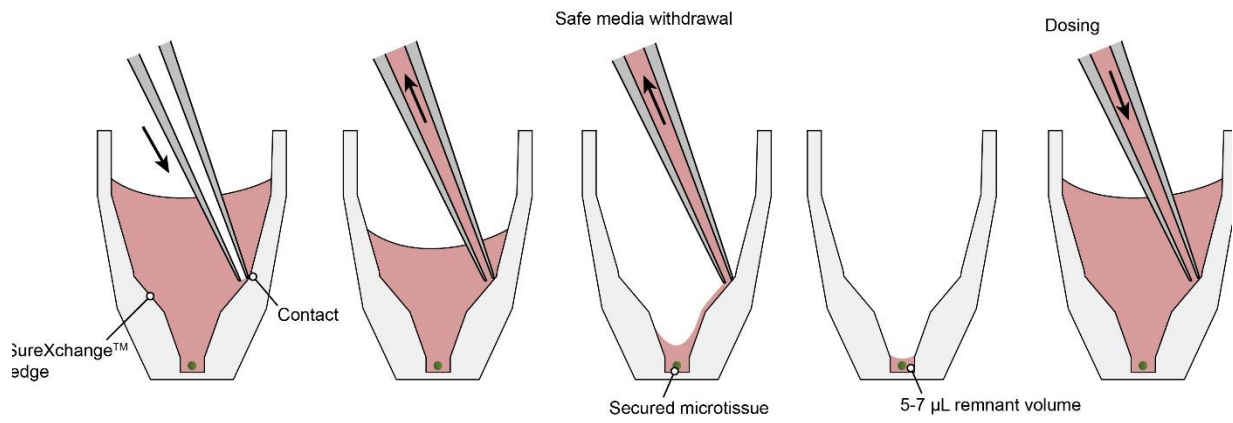

Figure 9: Medium exchange in the Akura™ 96 Plate. Left: Medium removal with the pipette tip placed at the ledge of the well. Right: Medium addition.
1. Place the pipette tip at the ledge of the well (Fig. 9, left).
3. Add 70 μl of fresh medium by placing the pipette tip at the ledge (Fig. 9, right). Use a dispensing rate <50 $\mu\text{l}/\text{sec}$ when using Integra Viaflo pipettes.
1. Place pipette tip at the ledge by slowly sliding down along the inside wall of the well until a subtle resistance can be felt (Fig. 9, left)
3. Add 70 µl of pre-warmed medium by placing the pipette tip at the ledge of the plate well (Fig. 9, right) and gently dispense at low pipetting speed (speed dependent on spheroid type, ~10 – 30 µl/sec if using an automated multi-channel pipette).